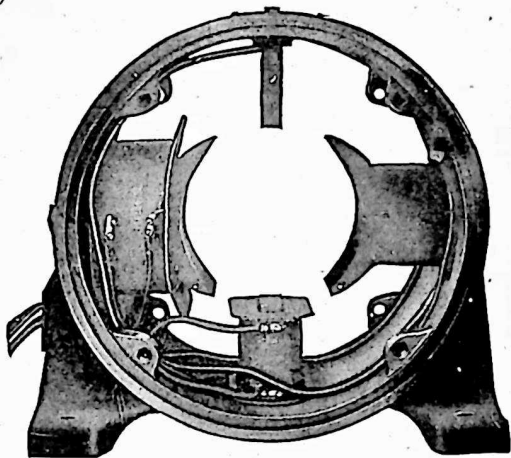

FIG. 128a. Frame of a General Electric two-pole generator showing partial assembly. The two small pole pieces are the commutating poles.
**63. Commutating Poles.** In between the main poles, most modern machines have smaller poles called *commutating poles*. See Fig. 128a.